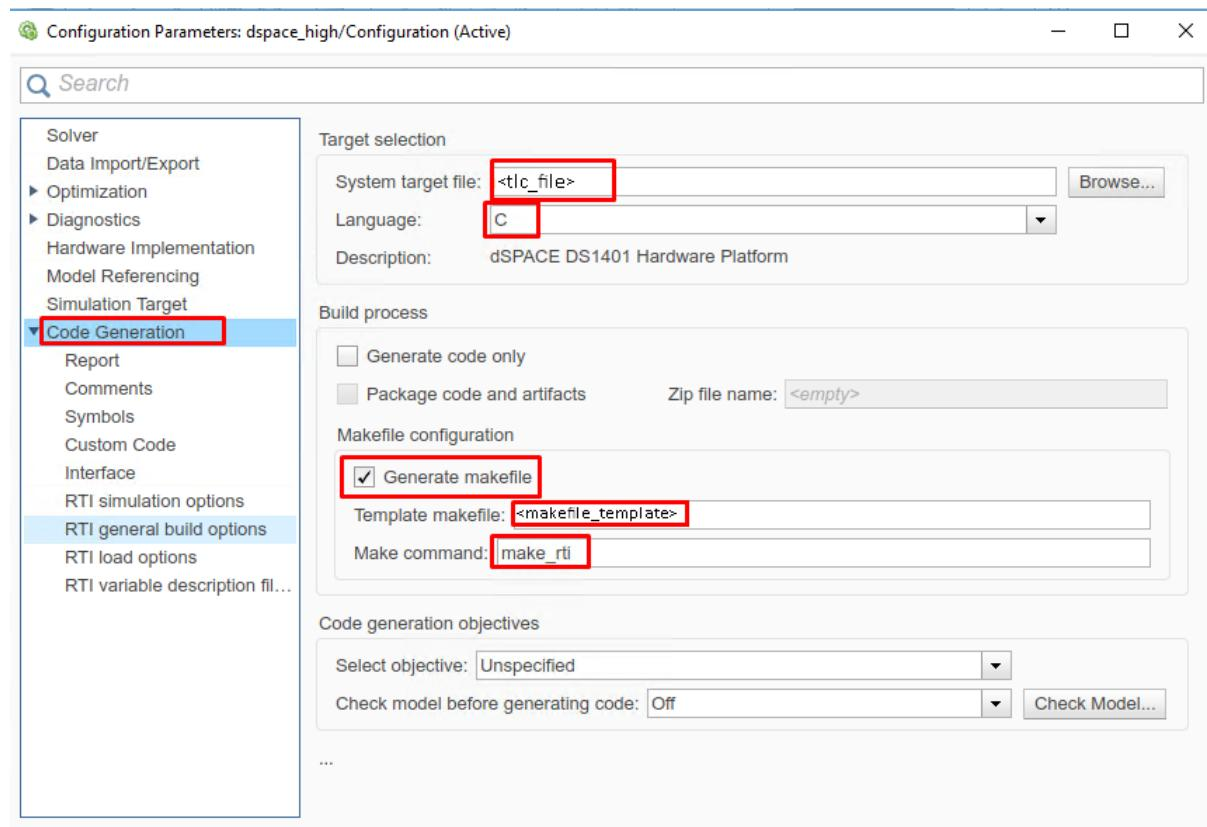

Figure 13.9: Set the Simulink code generation options.
9. (Figure 13.9) In the "Code Generation" tab, set the options (for `<t1c_file>` and `<makefile_template>` see Simulink Model HW Target Configuration):